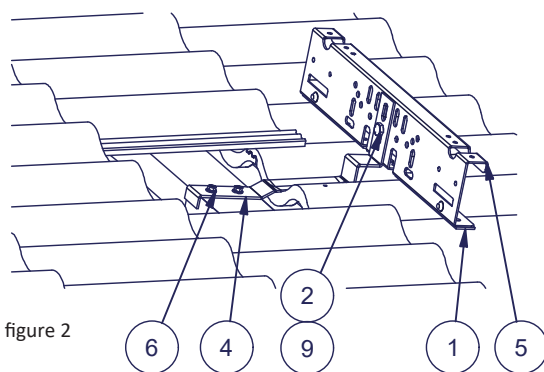

figure 2
The ladder fixing rod (4) must be guided to the bottom groove of the tile and shall be fixed to the auxiliary batten by using 2 pcs of 7x40 mm HVAC screws (figure 2).
Place an adhesive sealant (1) or alternatively Pisko 2+1 sealants (min 3. pcs per fastener) to the bottom of the Pisko MultiFast fastener (5) and attach them to the ladder frame with Pisko MultiFast stile bracket (3) by using 4 pcs of M8x16 screws per bracket (figure 5). Start with a loose fixing of the screws. The maximum support c/c is 1400 mm (figure 4). The top and bottom MultiFast fasteners of the ladder should be fixed with stile brackets (3). Fasteners in between can be fixed to the ladder with Pisko MultiFast stile bracket, easyfix (10)(figure 6). Place the ladder on the roof and fix the Pisko MultiFast fasteners (5) to the ladder fixing rods (4) coming from the roof by using M8 square neck bolt and M8 flange nut (figure 2). Lastly, tighten all the connections firmly.